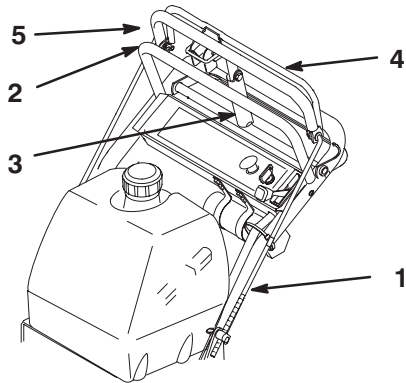

Figure 8
3. Check the gap between upper control bar and fixed bar with wheel drive fully engaged. Gap should be approximately 1 to 1-1/4 in. (25–32 mm) (Fig. 8).